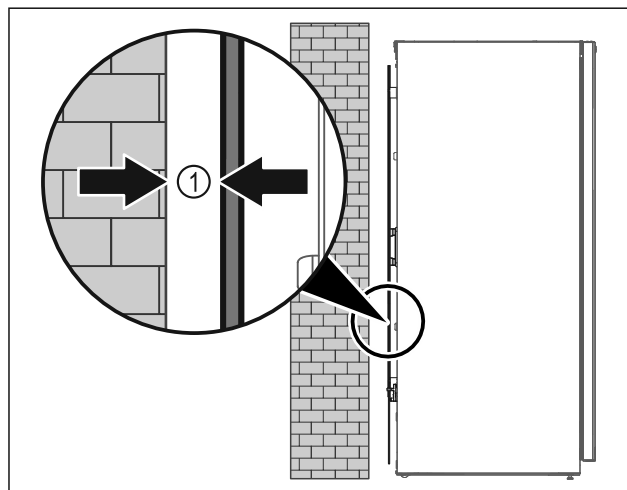

Fig. 27
- Set up the appliance either free-standing or directly against a wall at a minimum distance of 5 mm Fig. 27 (1).